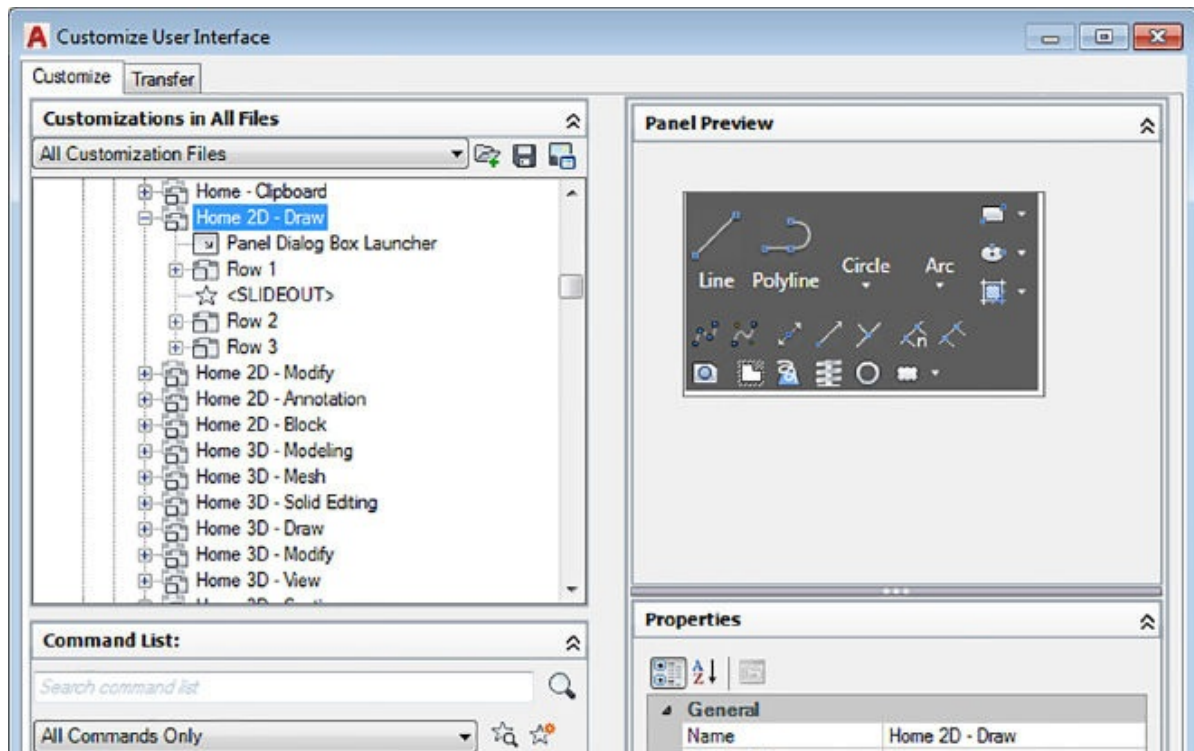

FIGURE 24.4 The Draw Ribbon panel appears.
4. Click the Home 2D – Draw option. A view of the Draw Ribbon panel appears in the Panel Preview area (see Figure 24.4).